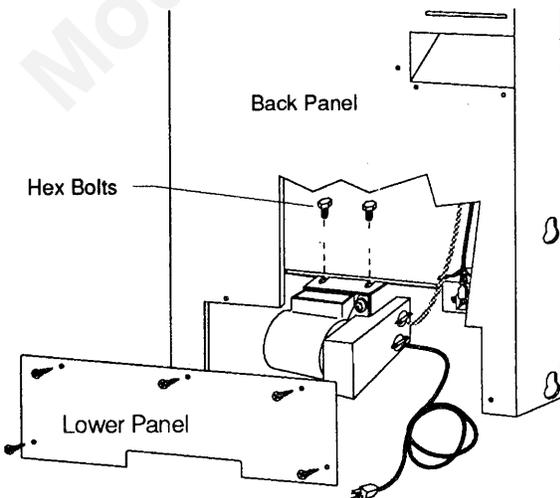

Figure 20. Install Blower.
Step 5. Remove the panel at the bottom of the Rear Shroud and secure the blower assembly to the firebox base using the two hex bolts supplied with the kit. Fig. 20.